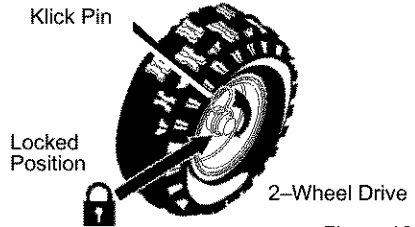

Figure 16
1. The right hand wheel is secured to the axle with a **klick pin**. This unit was shipped with this klick pin in the **locked position (through wheel hole)**. See Figure 16.